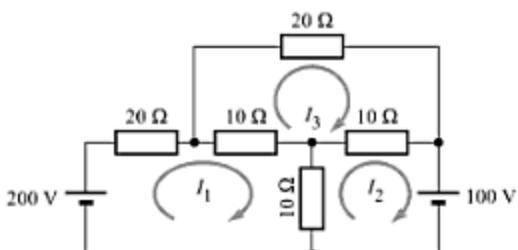

Fig. 3.69
10. Apply mesh analysis and determine the loop currents I_1 , I_2 and I_3 in the circuit shown in Fig. 3.69. [Ans. $I_1 = 4.5 \text{ A}$, $I_2 = -2.5 \text{ A}$, $I_3 = 0.5 \text{ A}$]